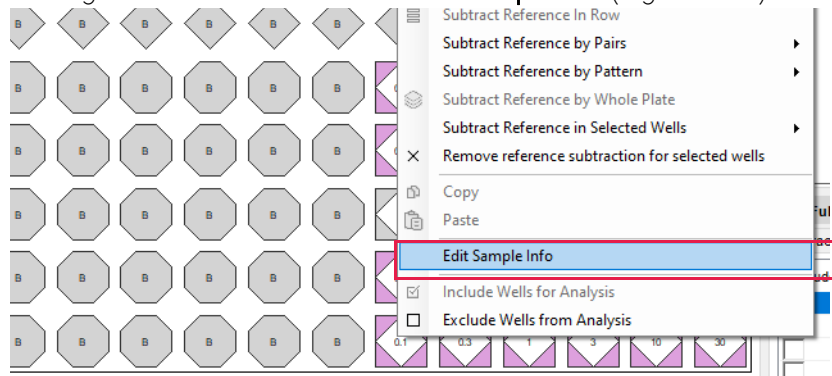

Figure 4-60: Selecting Edit Sample Info
2. Right-click the well and select **Edit Sample Info** (Figure 4-60).